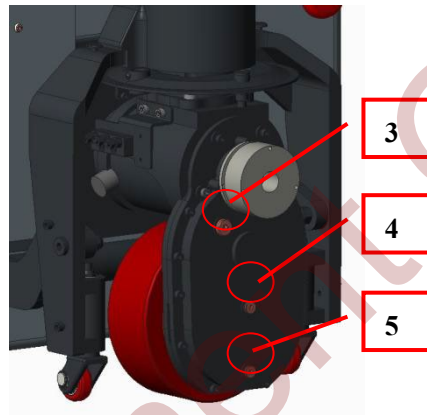

Fig. 22
- (Fig.22) 3 is the oil filling hole, 4 is the Spilling oil hole, 5 is the drain hole. Screw off screw 5 to drain oil when replacing gear oil. Tighten screw 5 after the oil is drained.